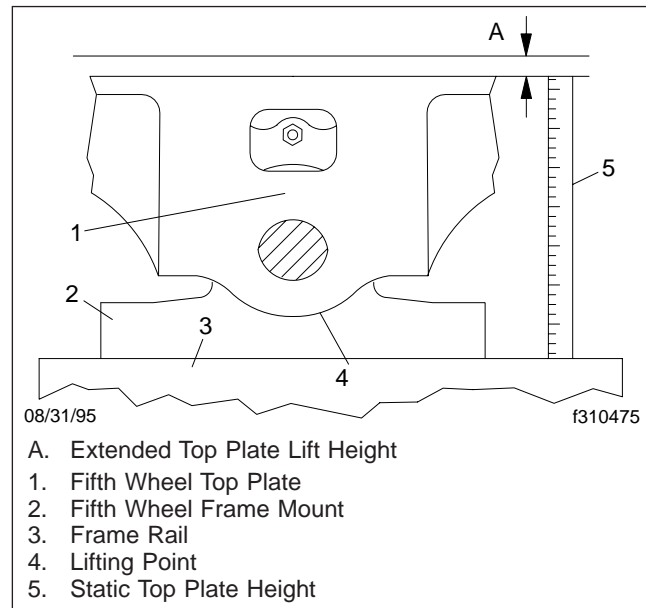

Fig. 5, Measuring Fifth Wheel Top Plate Lift
7. Level the fifth wheel plate to a horizontal position. Measure the height from a stationary mounting point (see Fig. 5, Ref. 3), such as the